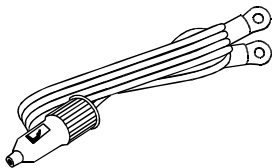

Figure 4 Lighter Plug Cable
- For AC loads of 150 W or less: Lighter plug cable to connect the inverter to a 12 V outlet in your vehicle. See Figure 4.